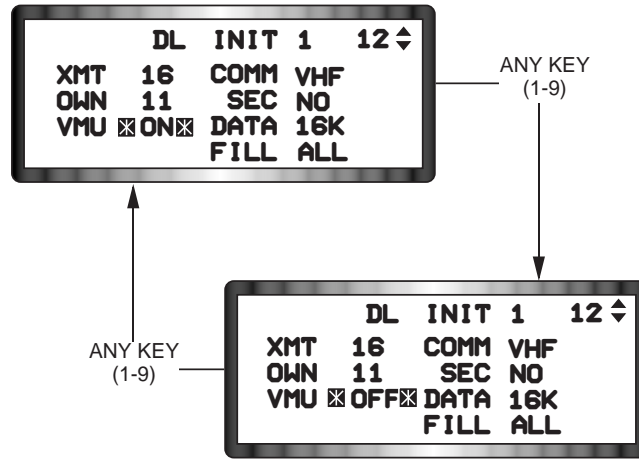

Figure 1-63 VMU Selection
**Voice Message Unit (VMU).** The Voice Message Unit (VMU) field on the DL INIT 1 page turns the aural cue associated with a data link message reception on or off (See Figure 1-63). When the VMU field selection is ON, the word "DATA" is heard in the headset upon receipt of an air-to-air target assignment, an A-G intraflight message, or a text message. When the VMU field is selected OFF, no voice messages are generated upon message receipt. The VMU data link aural cue is toggled on or off by positioning the asterisks around the VMU field and depressing any key 1-9 on the ICP. NOTE: If the FILL option on the DL INIT 1 page is "NONE", the VMU cannot be activated when a message is received even though the VMU selection is ON because the avionics system does not store the received data link messages.